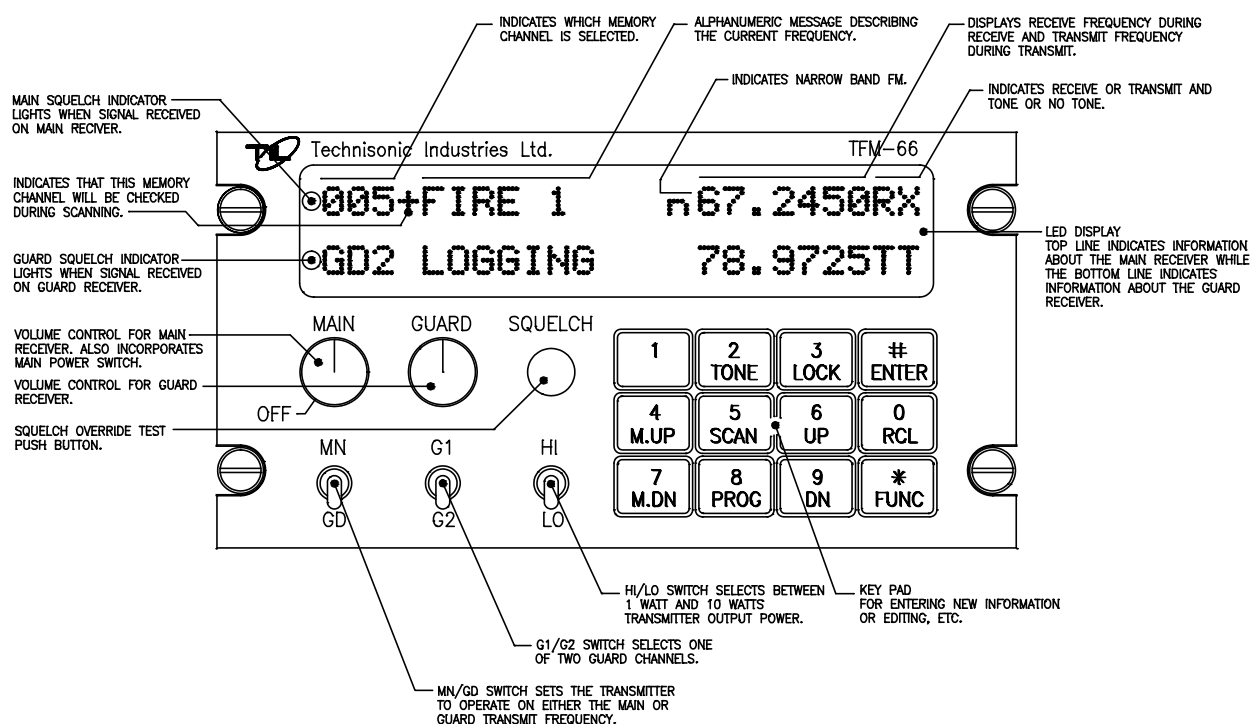

FIGURE 2.1 Operator's Switches and Controls - TFM-66
2.2 OPERATING INSTRUCTIONS (See Figure 2.1)